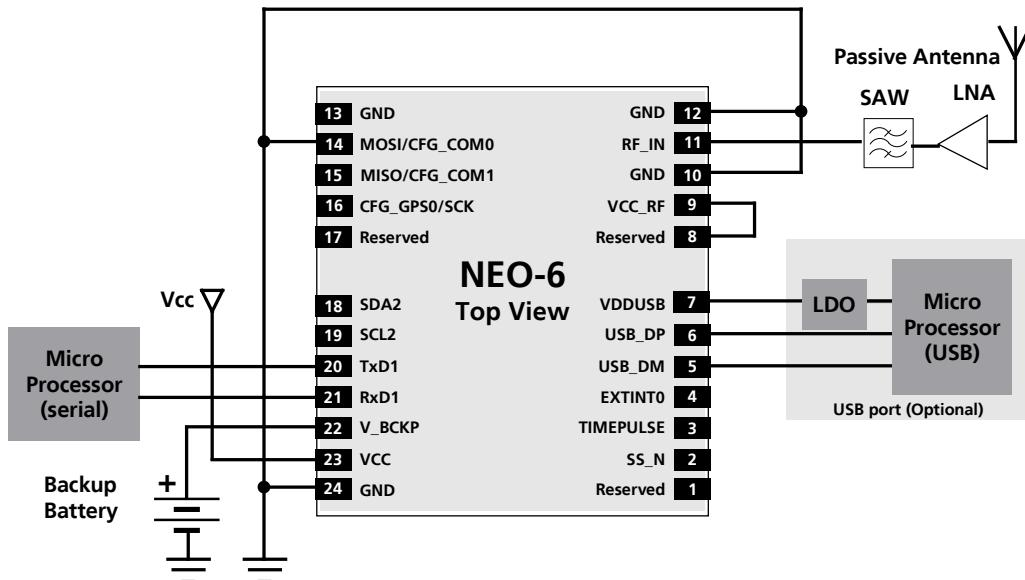
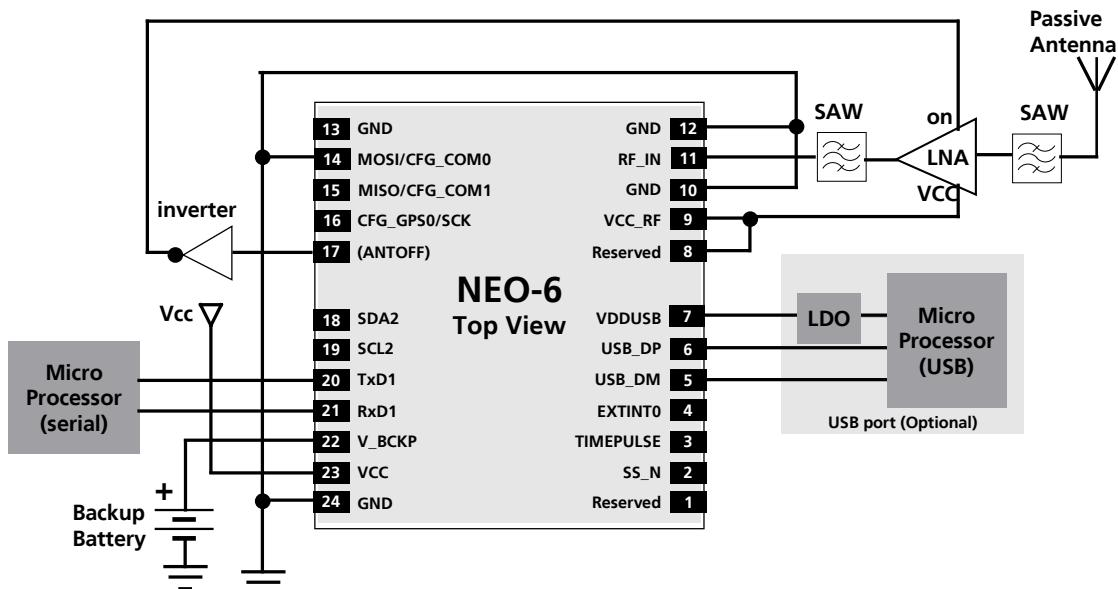

Figure 25: NEO-6 passive antenna design for best performance (with external SAW and LNA)
Figure 26: NEO-6 passive antenna design for best performance and increased immunity to jammers such as GSM
- 👉 For best performance with passive antenna designs use an external LNA to increase the sensitivity up to 2 dB. See Figure 25 and Figure 26.
Figure 26 below shows a passive antenna design for NEO-6 GPS modules with an external SAW-LNA-SAW for best performance and increased immunity to jammers such as GSM. For lowest power in backup mode use ANTOFF